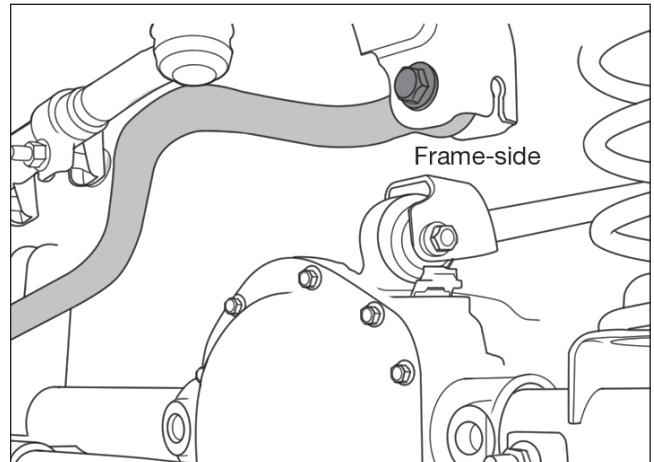

Figure 11
4. Loosen but DO NOT remove the frame-side track bar bolt (fig. 11). Remove and save the axle-side track bar bolt and flag nut.